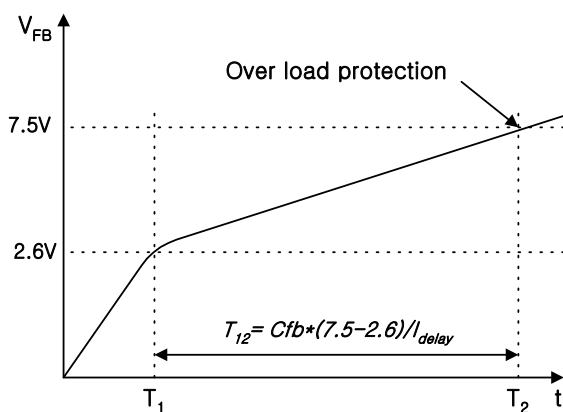

Figure 4. Over load protection
3.2 Over Load Protection (OLP) : Overload means that the load current exceeds a pre-set level due to an abnormal situation. In this situation, protection circuit should be activated in order to protect the SMPS. However, even when the SMPS is in the normal operation, the over load protection circuit can be activated during the load transition. In order to avoid this undesired operation, the over load protection circuit is designed to be activated after a specified period to determine whether it is a transient situation or an overload situation. Because of the pulse-by-pulse current limit capability, the maximum peak current through the SMPS is limited, and therefore the maximum input power is restricted with a given input voltage. If the output consumes beyond this maximum power, the output voltage (V_o) decreases below the set voltage. This reduces the current through the opto-coupler diode, which also reduces opto-coupler transistor current increasing V_{fb} . If V_{fb} exceeds 2.6V, D1 is blocked and the $5\mu\text{A}$ current source starts to charge C_{fb} slowly compared to when the 0.9mA current source charges C_{fb} . In this condition, V_{fb} continues increasing until it reaches 7.5V, and the switching operation is terminated at that time as shown in figure 4. The delay time for shutdown is the time required to charge C_{fb} from 2.6V to 7.5V with $5\mu\text{A}$. When C_{fb} is 10nF (103), T_{12} is approximately 9.8ms and when C_{fb} is $0.1\mu\text{F}$ (104), T_{12} is approximately 98ms. These values are enough to prevent SMPS from being shut down during transient situations.